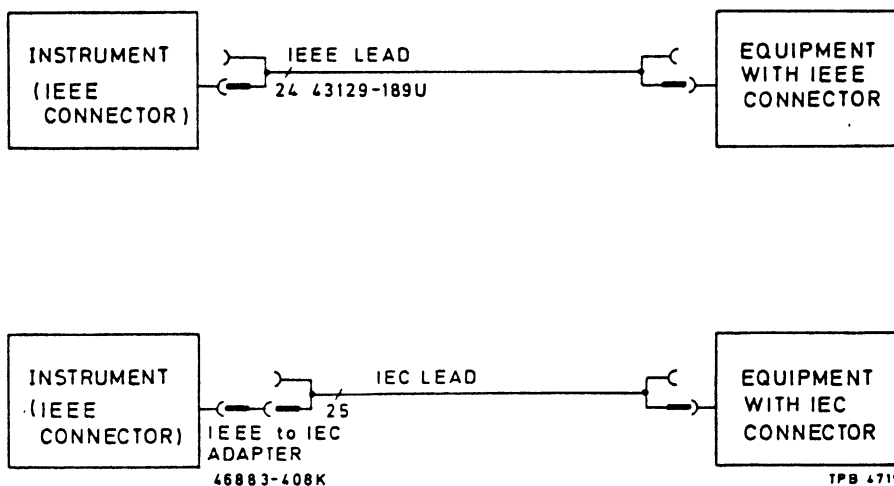

Fig. 2 GPIB interconnections
2. Connection to other equipment which has a 24-way bus connector to IEEE Standard 488 can be made with the GPIB lead assembly 43129-189U, available as an optional accessory. An IEEE-to-IEC adapter 46883-408K is also available for interfacing with systems using a 25-way bus connector to IEC Recommendation 625 - see Fig. 2.